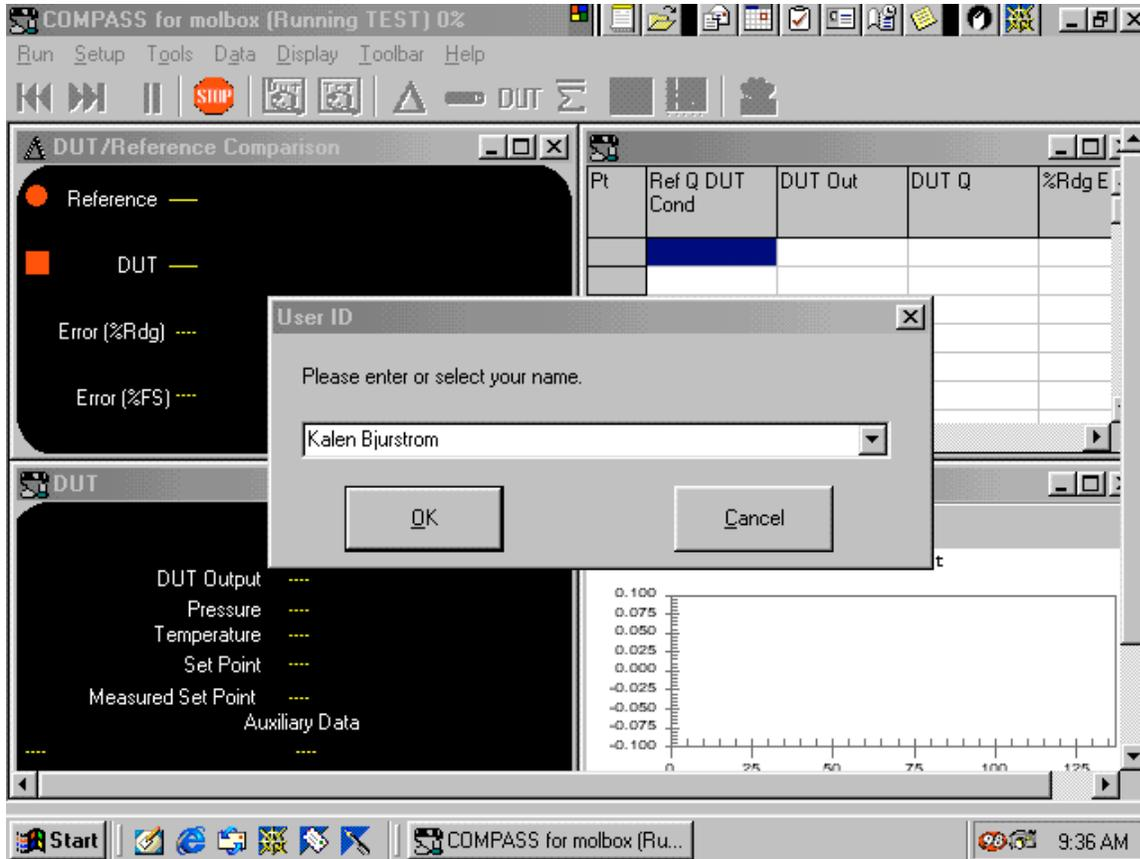

Figure 24 - Enter user name
11.4.6 Enter your name and click on "**OK**" (see figure 24).